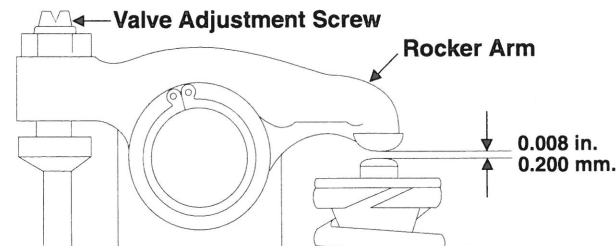

Figure 10: Valve Adjustment
4. Loosen the lock nut and adjust the clearance between the rocker arm and valve guide of both the intake and exhaust valves with the adjustment screw (Figure 10). Clearance on both intake and exhaust valves should be 0.008 in. (0.2 mm).